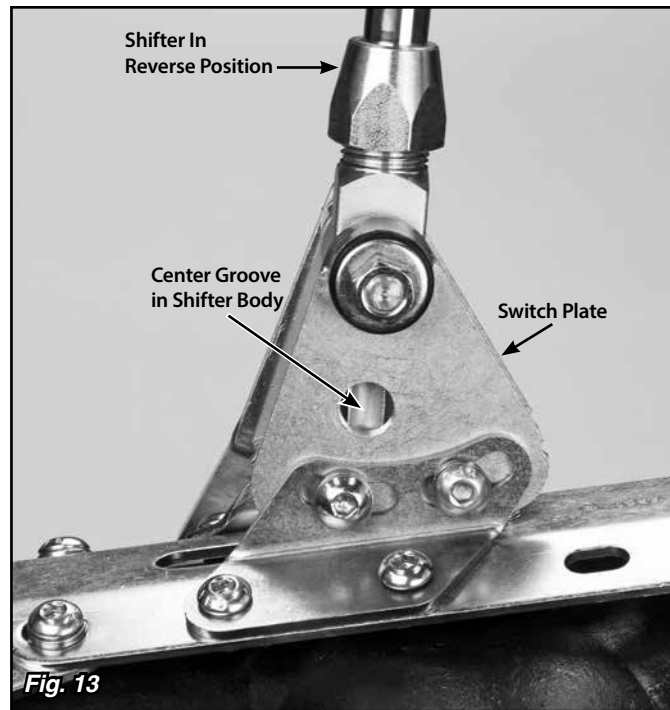
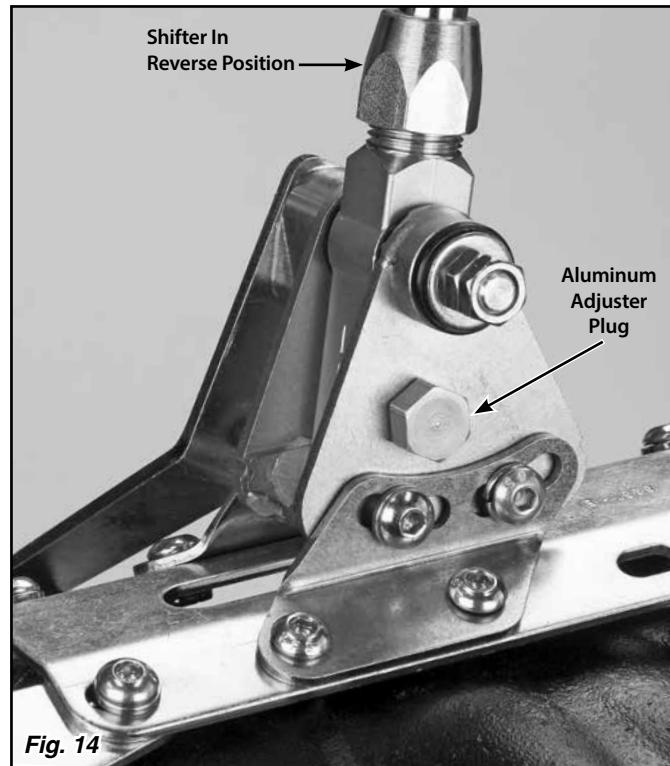

Fig. 13
Fig. 14
Step 20: Put the Shifter into the Reverse position. Reposition the switch plate so the hole in the switch plate lines up with the center groove in the shifter body. **Fig. 13** Screw the provided aluminum adjuster plug into the neutral safety switch opening. Moving the switch plate slightly forward and back while you are threading the aluminum adjuster plug in will help get the shifter body centered on the adjuster plug. **Fig. 14**
- **If there are (2) connections for a neutral safety switch**, run a #12 (or heavier) stranded wire from these terminals in your fuse panel to the (2) terminals on the neutral safety switch. This completes the neutral safety switch wiring.